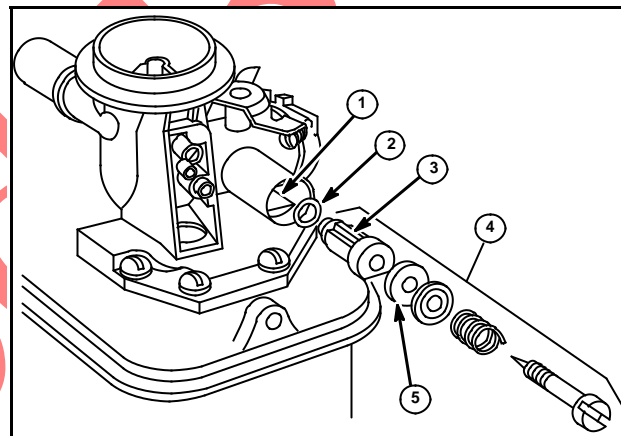

Fig. 49
Pressed-In Type (Fig. 49)
1. To install pressed-in type needle valve assembly, place "O" ring (2) on shoulder of needle seat (3).
2. Turn needle in until large seal washer (5) just touches needle seat, Fig. 49.
3. Assemble needle valve assembly (4) and turn screw until it just touches spring.
4. Install needle valve as an assembly being sure flat on valve seat lines up with flat in carburetor body (1), Fig. 49.